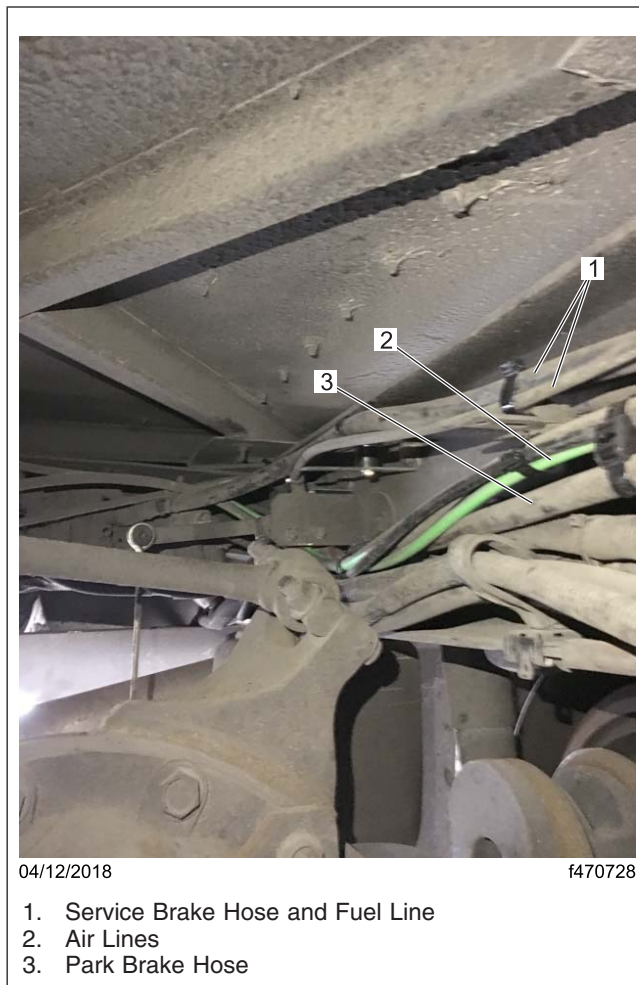

Fig. 12, Attaching the Tie Bands and Dual Cable Ties, Rearward View
8. Disconnect the red and green air lines at the brake valves and reroute them and the left park brake chamber hose under the height control valve bracket. Connect the lines as shown in **Fig. 12** and **Fig. 13**. Add tie bands and dual cable ties as needed to secure the lines.